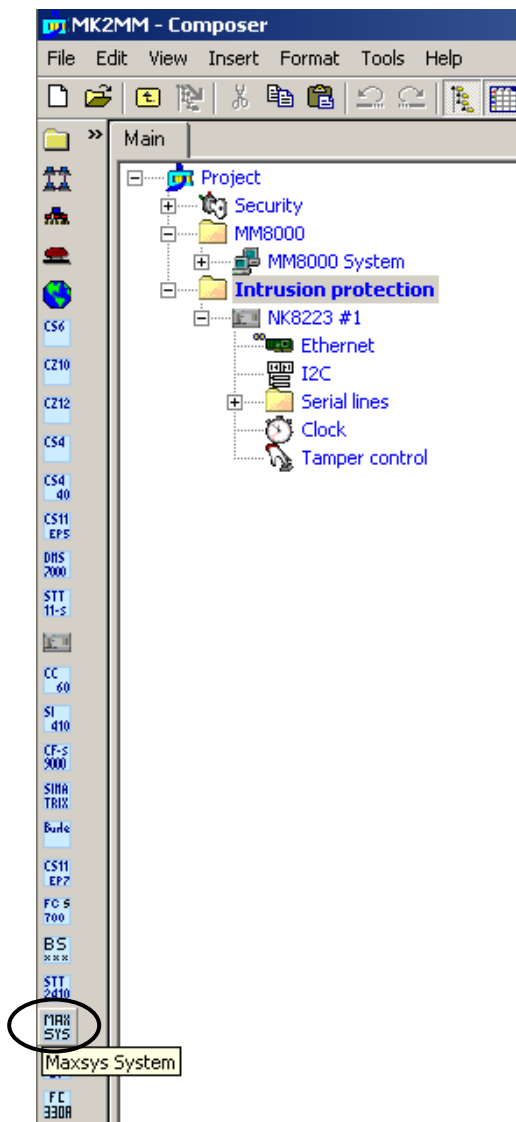

Fig. 12 Adding a MAXSYS subsystem
2. Select the MAXSYS icon  (see Fig. 12):